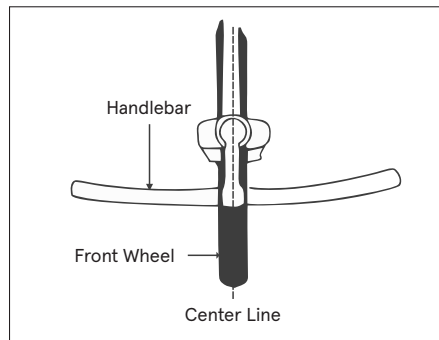

Fig. 13
- 2. Align the handlebar stem with the front wheel (See Fig. 13).** Securely tighten the stem bolt(s). Note: Some models require a 6mm hex key. (Tightening torque: 18N.m or 14foot lbs.torque).
- 2.** Align the handlebar stem with the front wheel (**See Fig. 13**). Securely tighten the stem bolt(s). Note: Some models require a 6mm hex key. (Tightening torque: 18N.m or 14foot lbs. torque).
- 4.** Be sure that your handlebar and stem assembly is properly tightened before riding. The handlebar and stem should not rotate in the stem up or down or in the fork from left or right (**Fig. 13**).